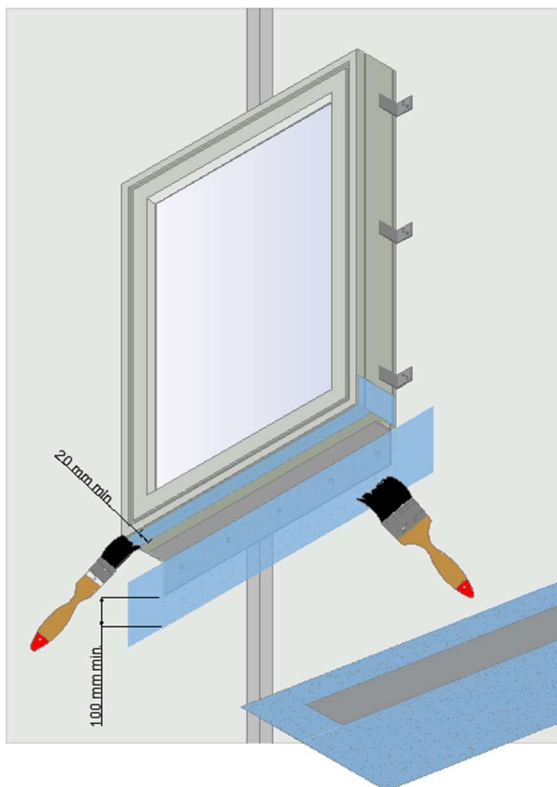

Figure 7
- Apply CT113 using a brush or roller evenly to both surfaces to be bonded. A minimum of 20 mm is recommended to non-porous surfaces such as the window frame and a minimum of 100 mm to porous surfaces (Figure 7).